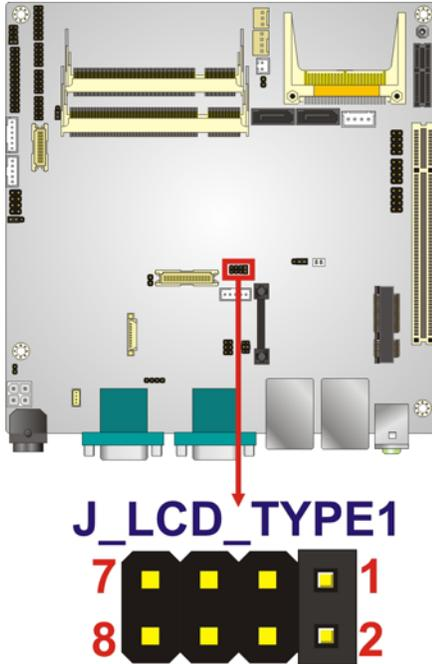

Figure 4-8: LVDS2 Panel Resolution Jumper Location
- Jumper Location:** See Figure 4-8
Jumper Location:	See Figure 4-8